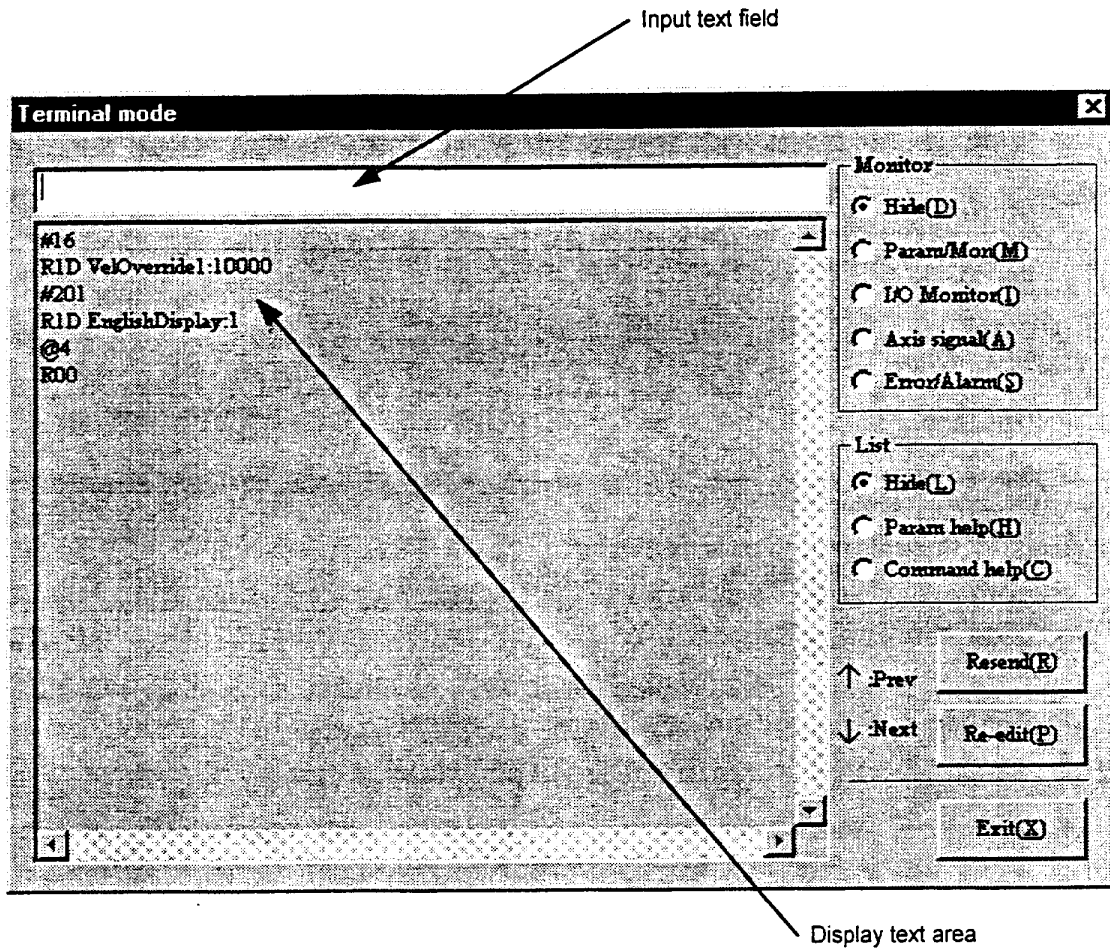

Figure 7.9 "Terminal" dialog box
Click "Terminal (T)" under "MainMenu" to display the "Terminal" dialog box (see Figure 7.9).